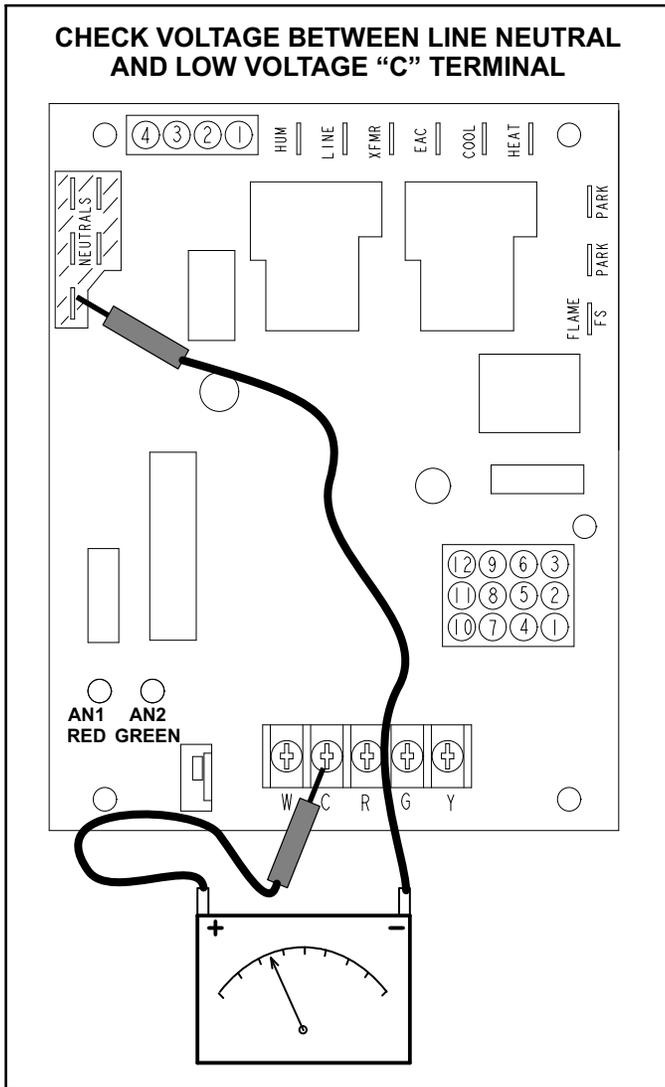

FIGURE 16
- 1 - Measure the AC voltage between Line Neutral (spade terminals) and "C" terminal (low voltage terminal block) on the integrated control. See figure 16. A wide variation in the voltage between Line Neutral and "C" as a function of load indicates a poor or partial ground. Compare the readings to the table below. If the readings exceed the maximum shown in table 1, make repairs before operating the furnace.